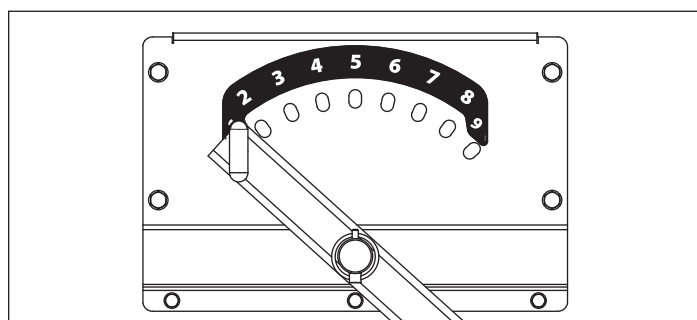

Figure 9
- b. Position the tow bar at the desired numbered offset hole on the deck mount degree plate. See Figure 9 and Table 1.